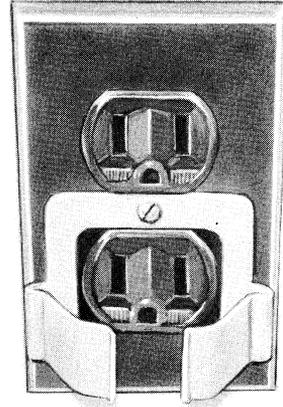

Fig. 20—841050818 Retaining Clamp Mounted on AC Outlet Box Using Outlet Cover Mounting Screw
the 85B1 power unit where additional mounting strength is needed, see Fig. 20.
13.02 The ac input to the unit is by means of two parallel blades for use in a standard two wire receptacle which serves as the mounting device. The ac output is available through screw terminals recessed in the plastic case. A retaining clamp (84105818) is available for use with the 95B1 power unit where additional mounting strength is needed, see Fig. 20.
Danger: For safety, securely attach retaining clamp to ac outlet using outlet cover screw BEFORE attempting to install 95B1 power unit. See Fig. 20. When removing 95B1 power unit, always unplug the power unit completely from the outlet BEFORE attempting to remove the retaining clamp. This will prevent the possibility of a loosened retainer clamp or metallic outlet cover making contact with the ac prongs of the 95B1 power unit when partially withdrawn from outlet. Do not use in 841050818 or similar retaining clamps on outlets where the cover mounting screw holds the duplex outlet in the box.